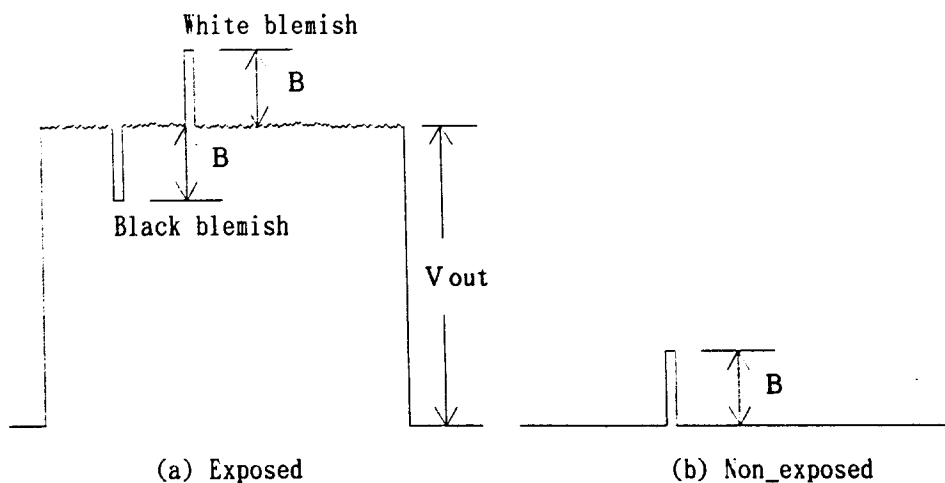

fig. 9 Definition of blemish level
- B : Blemish level defined in fig. 9.